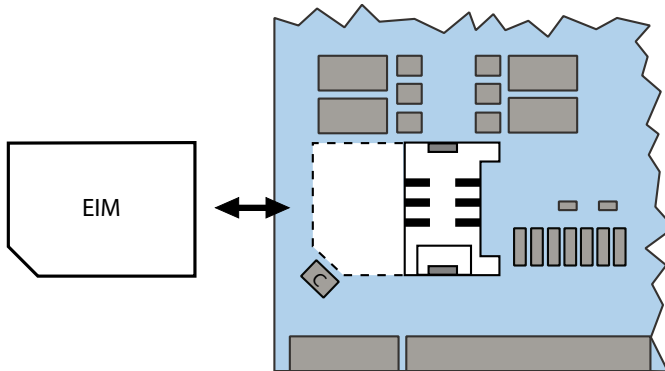

Fig. 85 EIM card
4. Push the new EIM card under the guide tongues and through to the stop in the chip-card holder. Make sure the contacts of the EIM card are facing downwards and the bevelled edge of the EIM card is pointing towards the edge of the call manager card and not against the capacitor (C) (see Fig. 85).